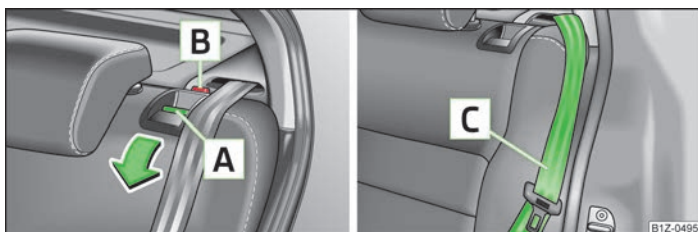

Fig. 46 Unlock the seat backrest/lock the seat backrest
- Unlock the seat backrest by pressing the securing knob **A** » Fig. 46 and fold it completely forwards.
- Place the rear outer seat belt **C** » Fig. 46 behind the edge of the side trim panel.